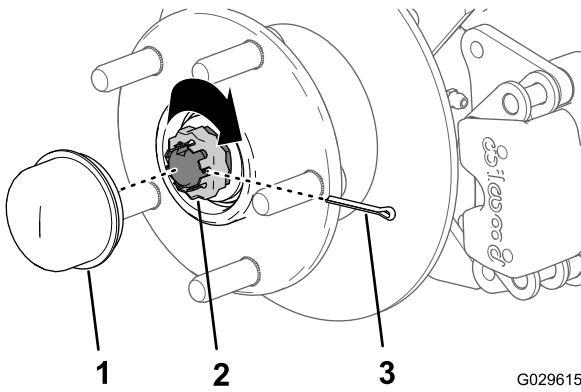

Figure 36
8. Install the retainer over the nut and check the alignment of the slot in the retainer and the hole in the spindle for the cotter pin (Figure 36).
9. Install the cotter pin and bend each leg around the retainer (Figure 36).
10. Install the dust cap onto the hub (Figure 36).